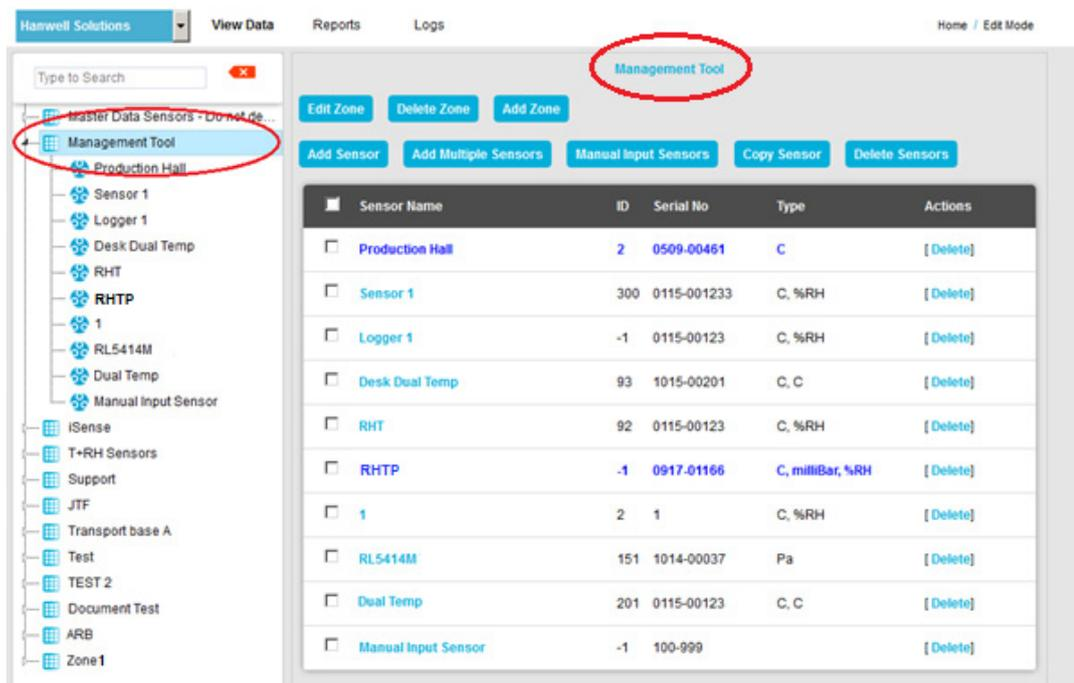

Figure 5
- To display another Zone's **Edit Mode** window, click on the entry for the required **Zone** in the left-hand menu. For an example, see Figure 5 below: